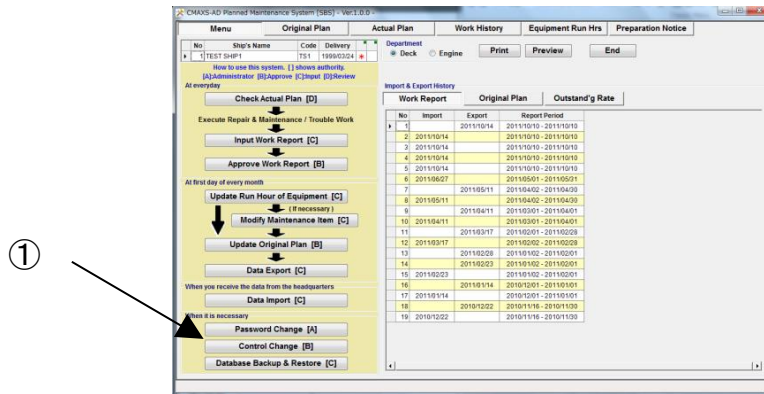

Fig.14-1 Menu Screen
(1) Select [Control Change] button on the "Menu screen" (Fig.14-1).